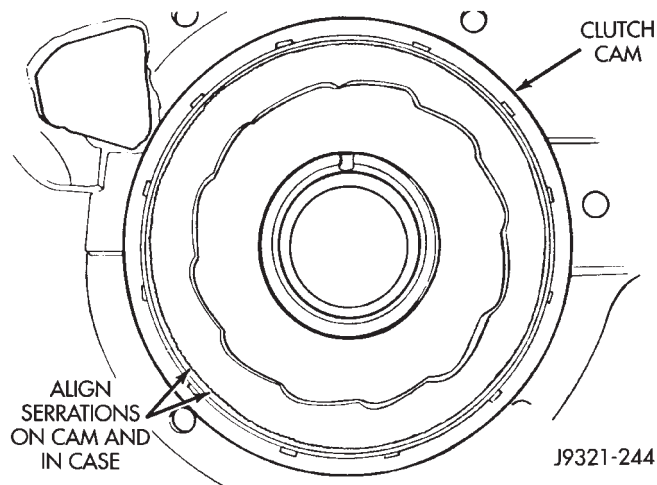

Fig. 147 Positioning Replacement Clutch Cam In Case
case are aligned (Fig. 147). Then tap cam into case just enough to hold it in place.
(3) **Verify that cam is correctly positioned before proceeding any further. Narrow ends of cam ramps should be to left when cam is viewed from front end of case (Fig. 147).**